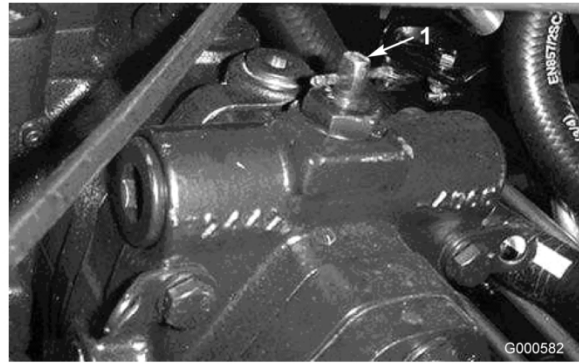

Figure 16
2. Rotate the bypass valve 90° (1/4 turn) in either direction to open and allow oil to bypass internally (Figure 16). Because fluid is